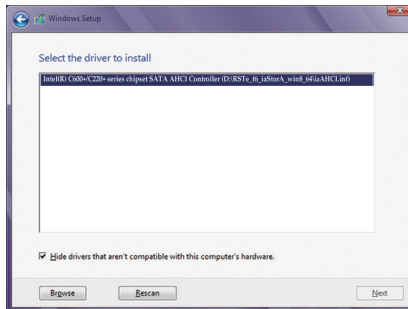

Figure 1
When a screen as shown in Figure 1 appears, select **Intel(R) C600+/C220+ series SATA AHCI Controller (D:\\RSTe\_f6\_iaStorA\_win8\_64\\iaAHCI.inf)** and click **Next** to load the driver and continue the OS installation.